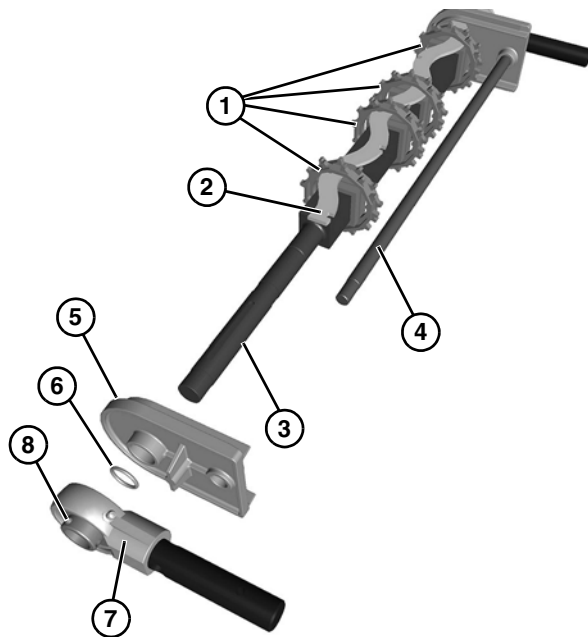

Figure 71
1. Assemble sprockets (Figure 71, item 1) to the slots of alignment bar (Figure 71, item 2), and install assembly onto drive spindle (Figure 71, item 3).
2. Install pinch guard shaft (Figure 71, item 4).
3. Slide the tracking plate (Figure 71, item 5) onto the drive spindle and pinch guard shaft.
When installing tracking plate, be certain O-ring (Figure 71, item 6) is installed.
4. Slide the shaft assembly (Figure 71, item 7) onto the drive spindle and tighten set screws (Figure 71, item 8) on bearing.